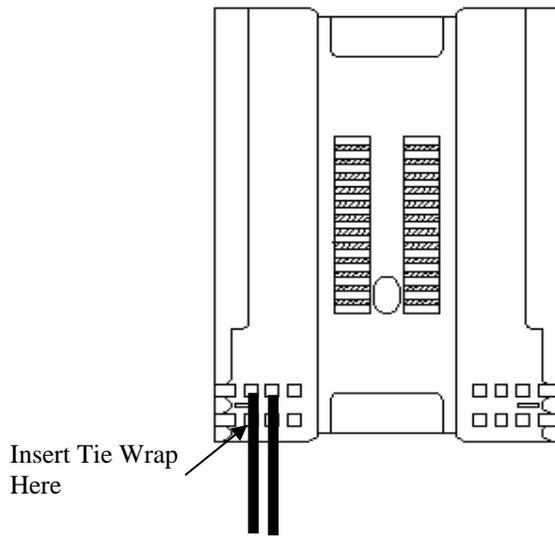

Figure 12 – Tie Wrap Installation
Step 13 - Insert a tie wrap into the first set of retentions slot closest to the entry point of the splice tray (See Figure 12 below). Cinch the tie wrap down around the OFCC group and Kevlar until snug and cut off the excess tie wrap.